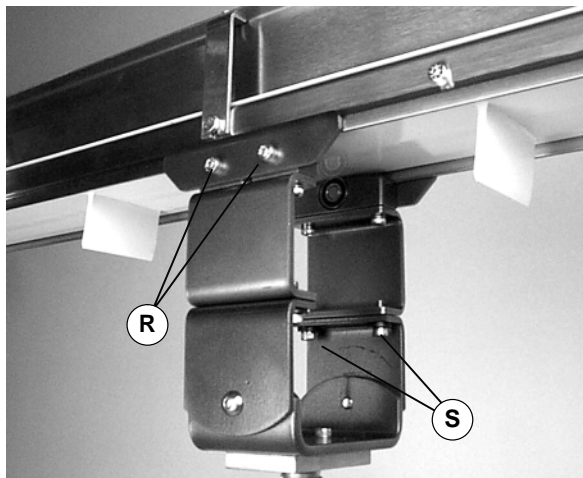

Figure 10
3. Attach clamp plates on each side of conveyor (Figure 10). Tighten the screws (R) to 80 in-lb (9 Nm).